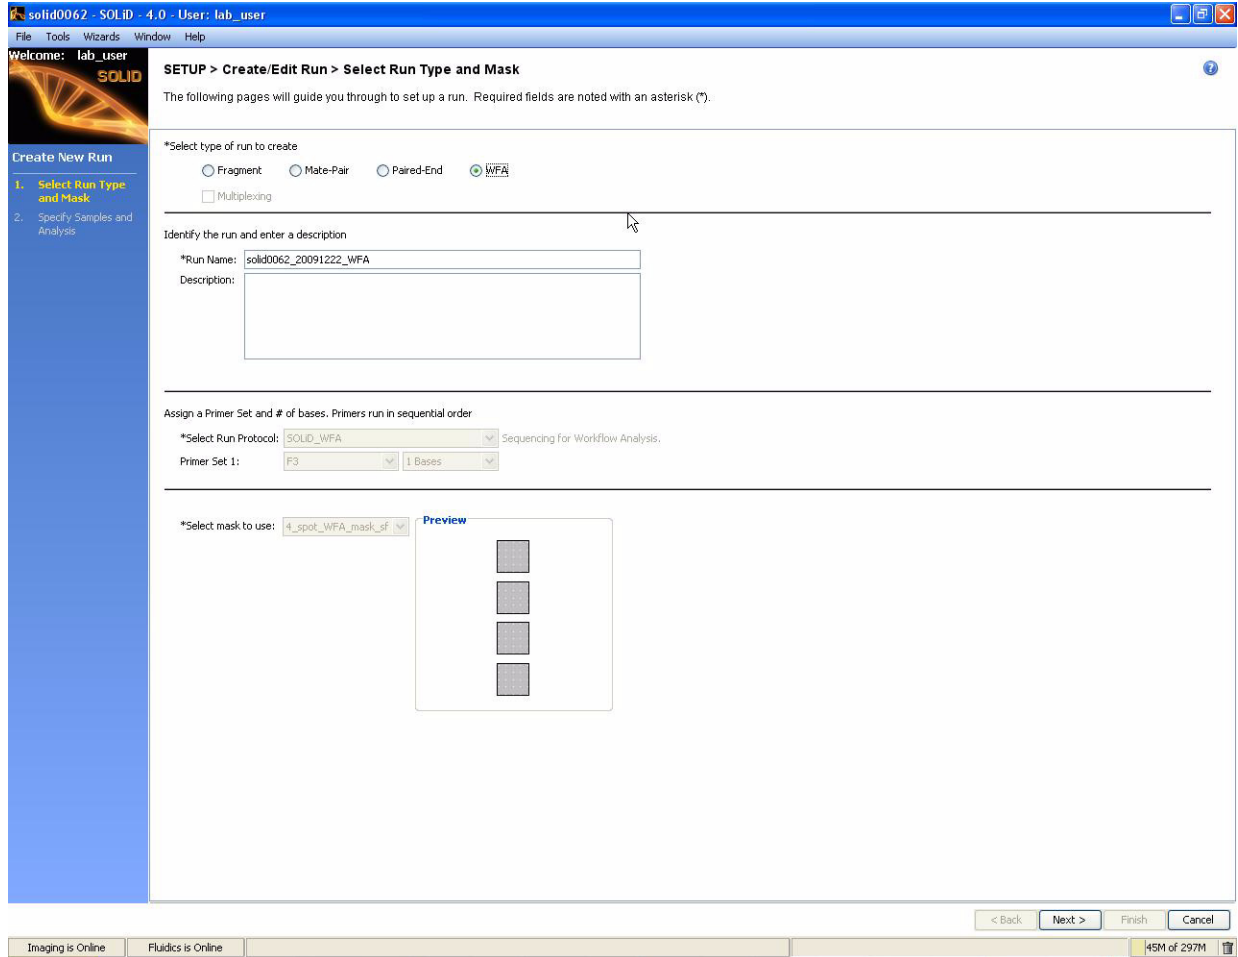

Figure 31 Complete the information in the Select Run Type and Mask pane.
2. Complete the information in the Select Run Type and Mask pane (see Figure 31 on page 58):